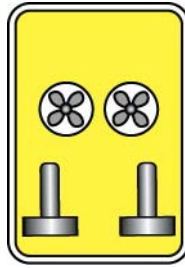

Figure 10: Four Thruster Vehicle with Two Vertical Thrusters
- One possible four thruster arrangement is created by adding another vertical thruster to the three thruster vehicle for generating a stronger vertical thrust. See Figure 10.